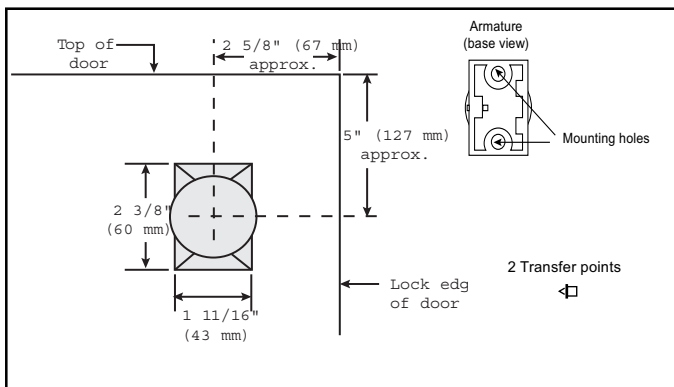

Figure 4. Mounting the Armature Assembly
NOTE: Armature assembly must be mounted vertically (Figure 4) to obtain correct alignment with the electromagnet.
- Place the transfer marking points in the armature mounting holes (Figure 4).